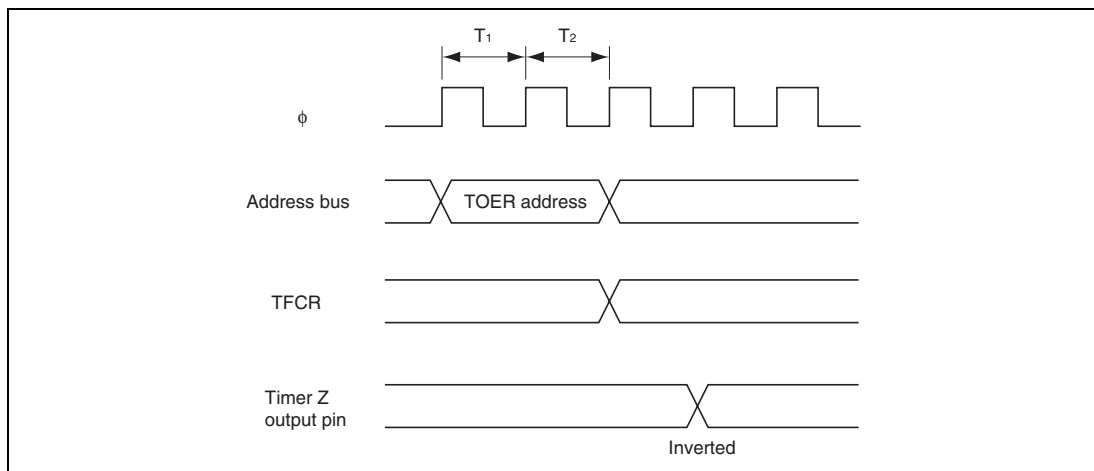

Figure 13.46 Example of Output Inverse Timing of Timer Z by Writing to TFCR
3. Output Inverse Timing by TFCR: The output level can be inverted by inverting the OLS1 and OLS0 bits in TFCR in reset synchronous PWM mode or complementary PWM mode. Figure 13.46 shows the timing.